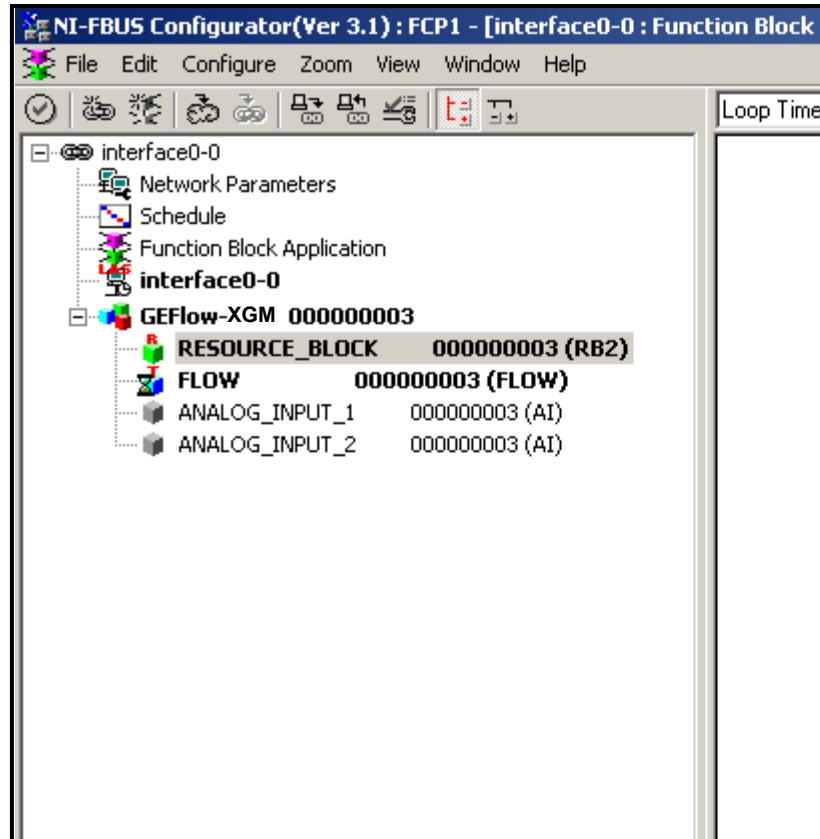

Figure 59: Configuration Utility Setup Example
Figure 59 shows the Configuration Utility with a flowmeter on the network (Panametrics Flow-XGM).
1. Double click on the AI block for which you wish to set the units (ANALOG\_INPUT\_1 or ANALOG\_INPUT\_2 in the tree under GEFlow-XGM; see Figure 59 on page 134).
1. Double click on the FLOW transducer block (in the tree under GEFlow-XGM; see Figure 59 on page 134).